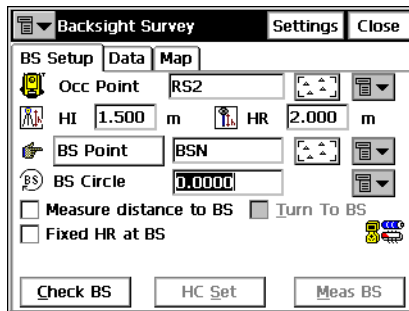

Figure 6-22. Backsight Survey
2. On the *Backsight Survey* screen, set the following backsight parameters (Figure 6-22 on page 6-21):